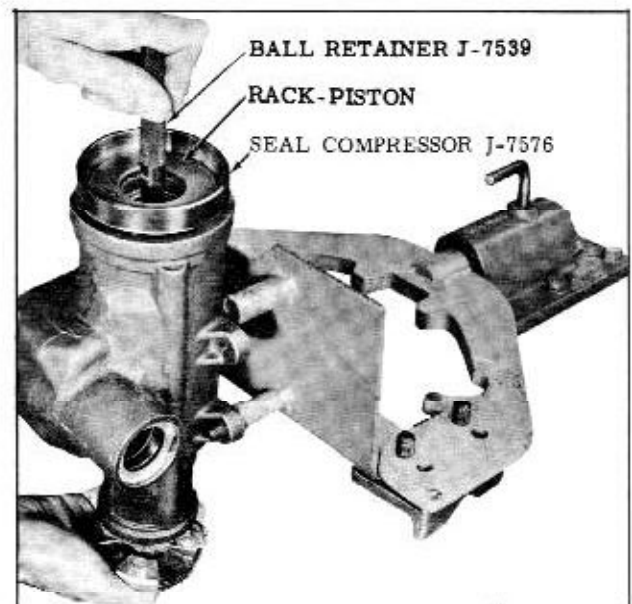

Fig. 4-68 Installing Rack-Piston
- c. With Ball Retainer J-7539 in place in the rack-piston, push the rack-piston into the housing until Tool J-7539 contacts the worm. (Fig. 4-68)